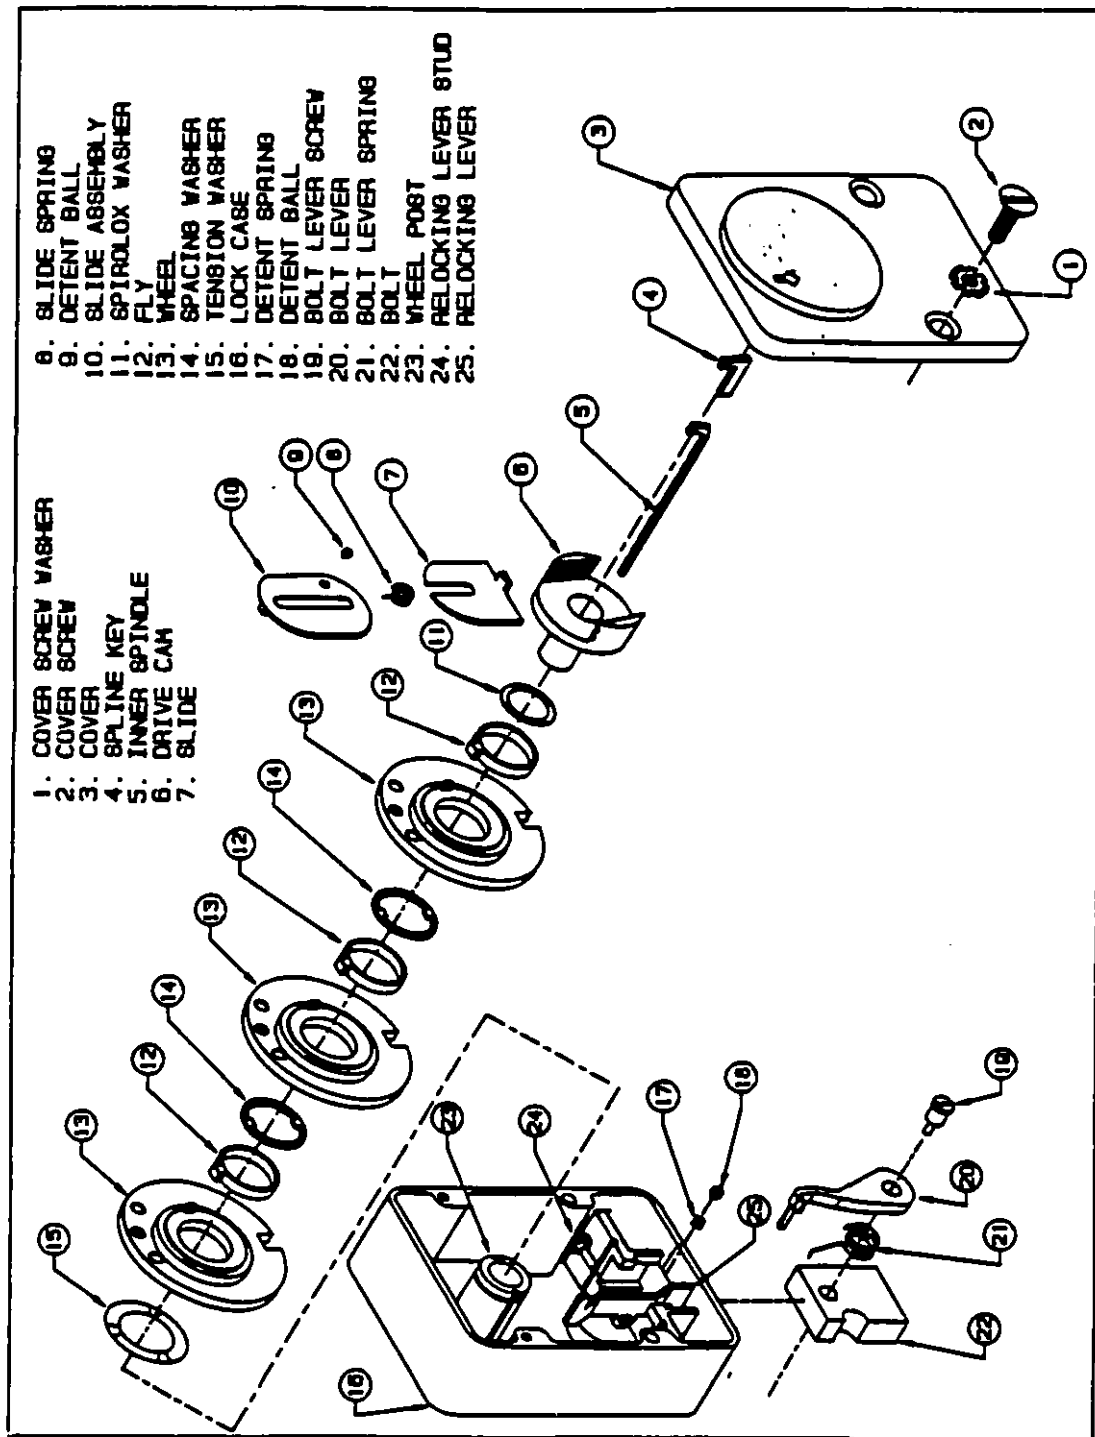

Figure 7
- p) Insert the inner spindle. Make sure the tip of the inner spindle seats properly into the hole in the cam slide (see Figures 7 and 8).